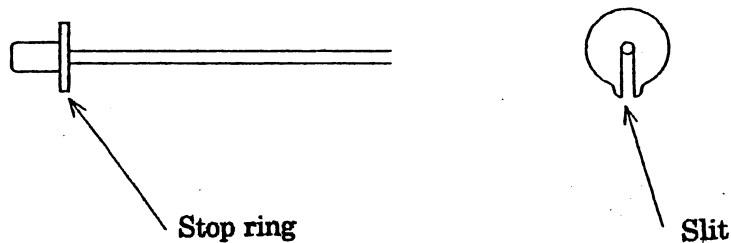

Figure 20
- (e) Attach a stop ring at the foot of rope ring and reduce its slit with a radio pliers. (See Fig.20)